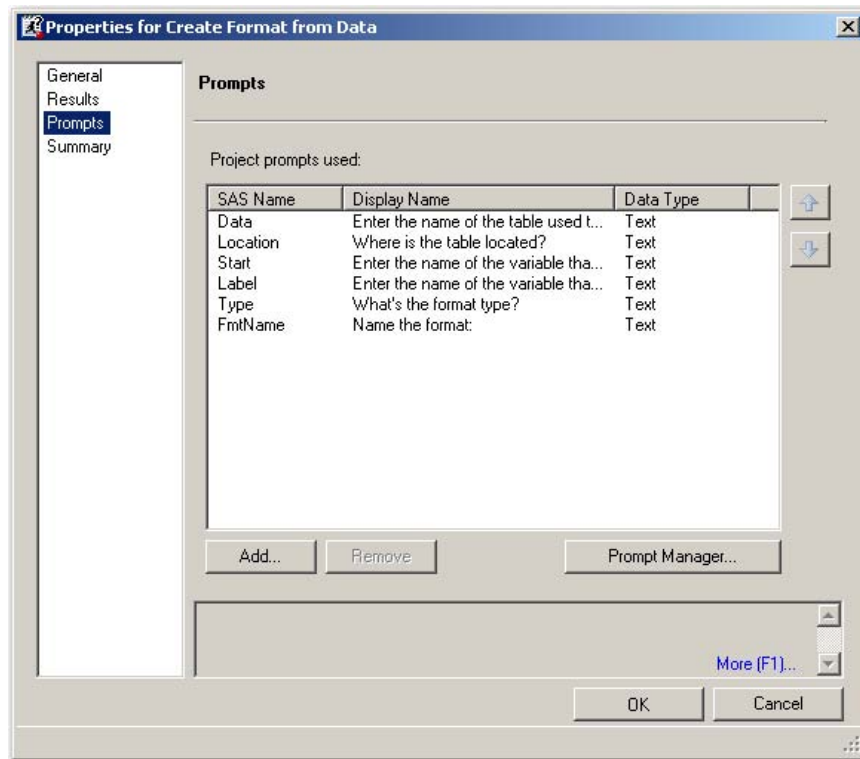

Figure 15. Properties for Create Format from Data Program
12. Select **Add**. Highlight all the prompts you just created and click **OK** to add them to the properties of the *Create Format from Data* program. Use the UP/DOWN arrows to the right of the field to order these prompts in the same order shown in Figure 15 so that the user will be prompted in that same order.